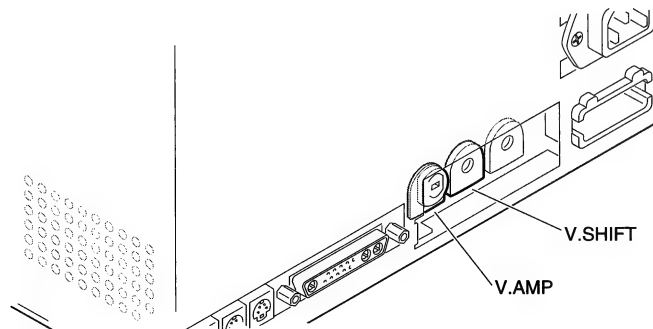

Figure 3 V.AMP and V.SHIFT Controls
2. FIGURE 3. Turn the V.AMP control until the raster is 276 mm high.
3. FIGURE 3. Turn the V.SHIFT control until the raster is centered (top to bottom) in the display area.